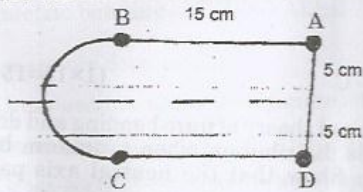

Figure 4
13. a) Find the shear flow distribution when the cross-section given in Fig. 4 is subject to a vertical shear load of 30 kN applied through the shear center. A, B, C and D = 2 cm². Determine the shear center position of the given section. The webs are assumed to be ineffective in bending. Locate the shear center.